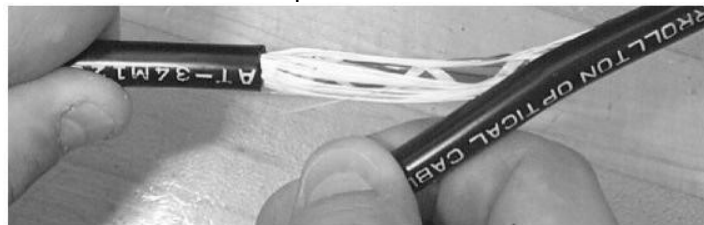

Figure 20 . Remove the 300mm section of outer sheath
5.6 Remove the 300mm outer sheath section to expose the inside elements and the cable cores. (Figure 20).